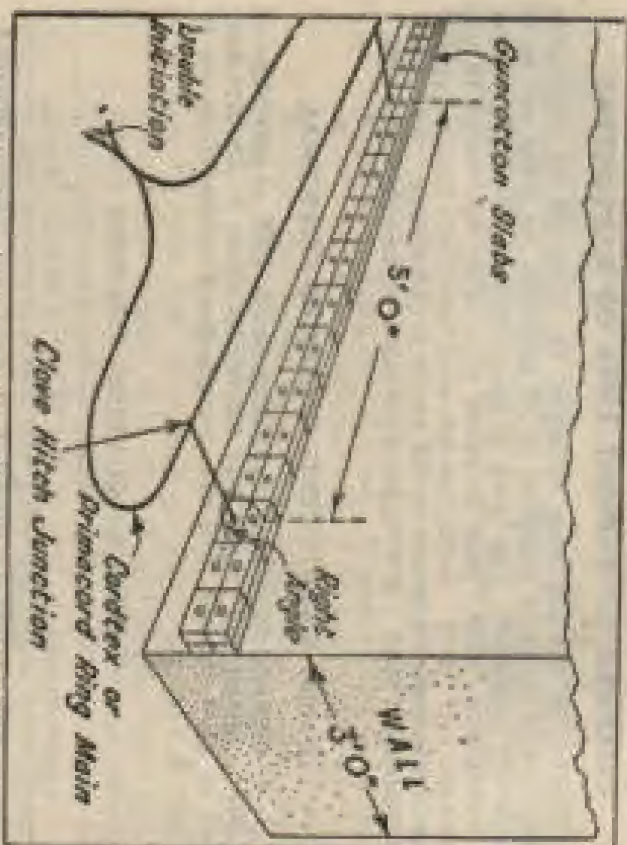

Fig. 13. Cutting charge on thick masonry wall, showing points of initiation. (Fixing omitted for clarity)
- (b) *Long continuous cutting charges* should have points of initiation (primers fired by cordtex, etc., as already described) every 5 ft of their length (see Fig 13). Grenades, however, should be placed flat end to flat end, with every other grenade initiated by cordtex. Where possible initiation should be on the surface of the charge furthest from the face of the object attached and at right angles to it (see Fig 13).
For walls over 9 ins and up to 18 ins thick use a continuous line of grenades placed flat end to flat end. Every other grenade should be initiated with cordtex as already described. It is emphasized again that such charges are NOT sufficient for reinforced concrete walls. Fig 13 shows a thick masonry wall with a cutting charge of four slabs of CC per foot run.